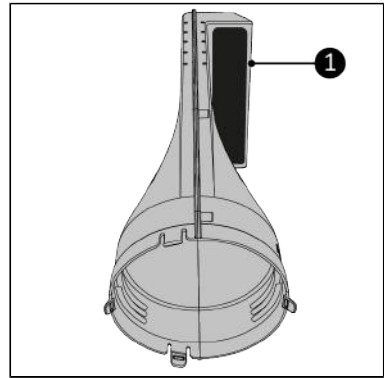

Figure 78.
4. Place the Way-out in front of you. Make sure the round opening is facing towards you (Figure 78).
5. Make sure the air outlet (Figure 78, pos. 1) is pointing to the right.